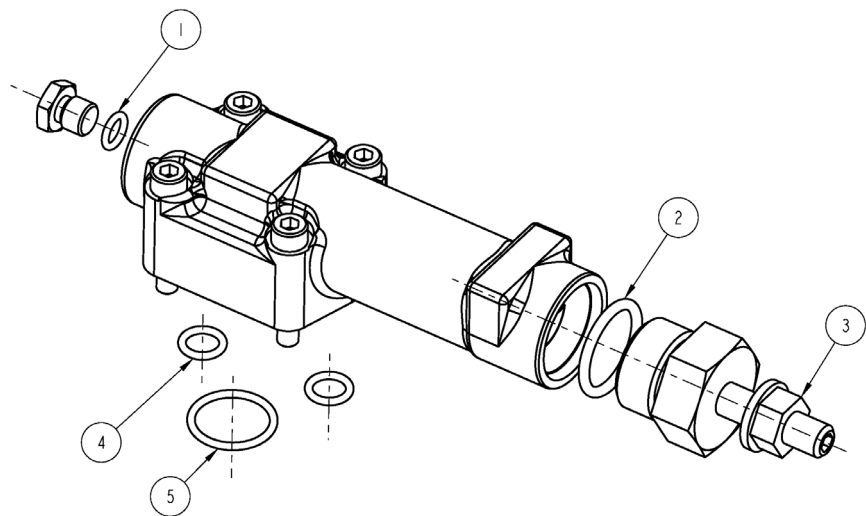

Figure 14
1. Remove the four screws that fix the compensator housing to the end cap (Figure 14 ②).
2. Remove the compensator and take out the three O-rings (Figure 14 ③④).
7. Install the three O-rings (Figure 14 ③④). The one in the middle is larger, and the ones at both ends are smaller.
8. Fasten the compensator housing to the end cover with four screws (Figure 14 ②), and tighten them with a torque of 7.4 - 9 Nm. When tightening, use a cross - crisscross pattern and re - tighten the first screw.